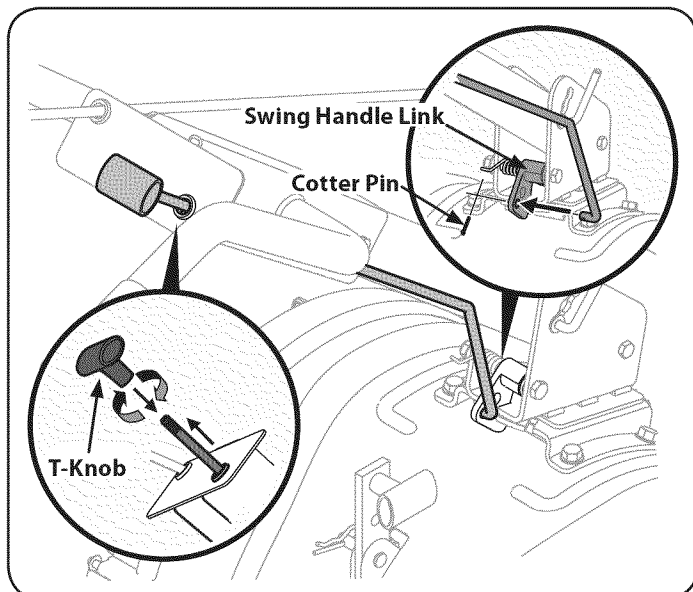

Figure 5
2. Remove the cotter pin and T-knob from the handle swivel rod. See Figure 5.
3. Slide the handle swivel rod through the upper handle assembly, insert the lower end of the rod into the swing handle link and secure with the previously removed hardware. See Figure 5.